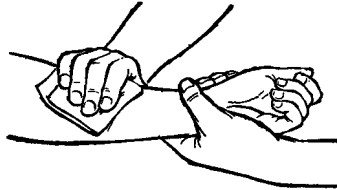

FIGURE 1. Direct Pressure on the Wound.
- a. Severe bleeding must be stopped without delay. Apply direct pressure to the wound using a cloth pad or even a bare hand, if necessary. See Figure 1.